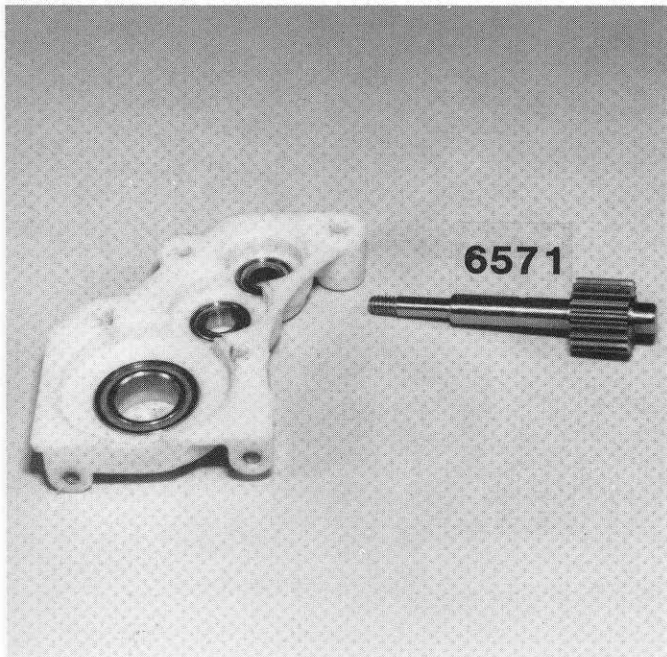

**Fig. 57**
□ **Fig. 57** Open Bag C and remove the #6565 left and right hand transmission cases (tranny cases), and remove any flash left from molding. Then install the four #6906 upper and two #6903 lower bearings.